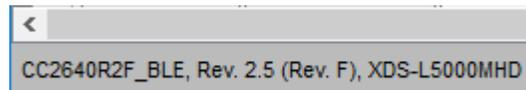

Figure 2. Device Identification with SmartRF™ Studio
- When connecting to a CC2640R2L device, the version number will appear in the lower-left corner (see Figure 2).